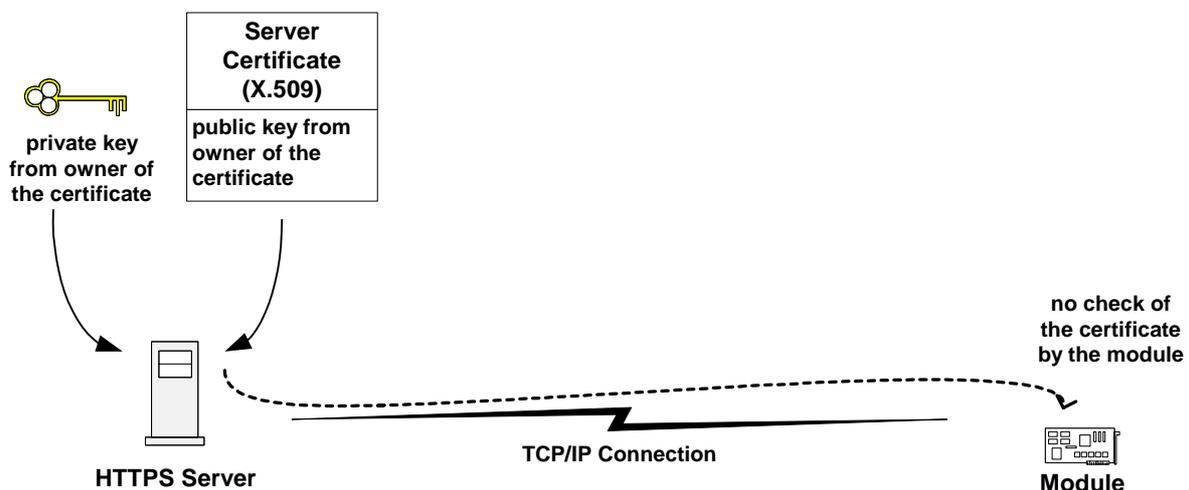

Figure 40: Mode 1 - Java Security not activated
- No examination of the server certificate takes place when setting up the connection. The authenticity of the server certificate is not verified. (Figure 40: Mode 1 - Java Security not activated)